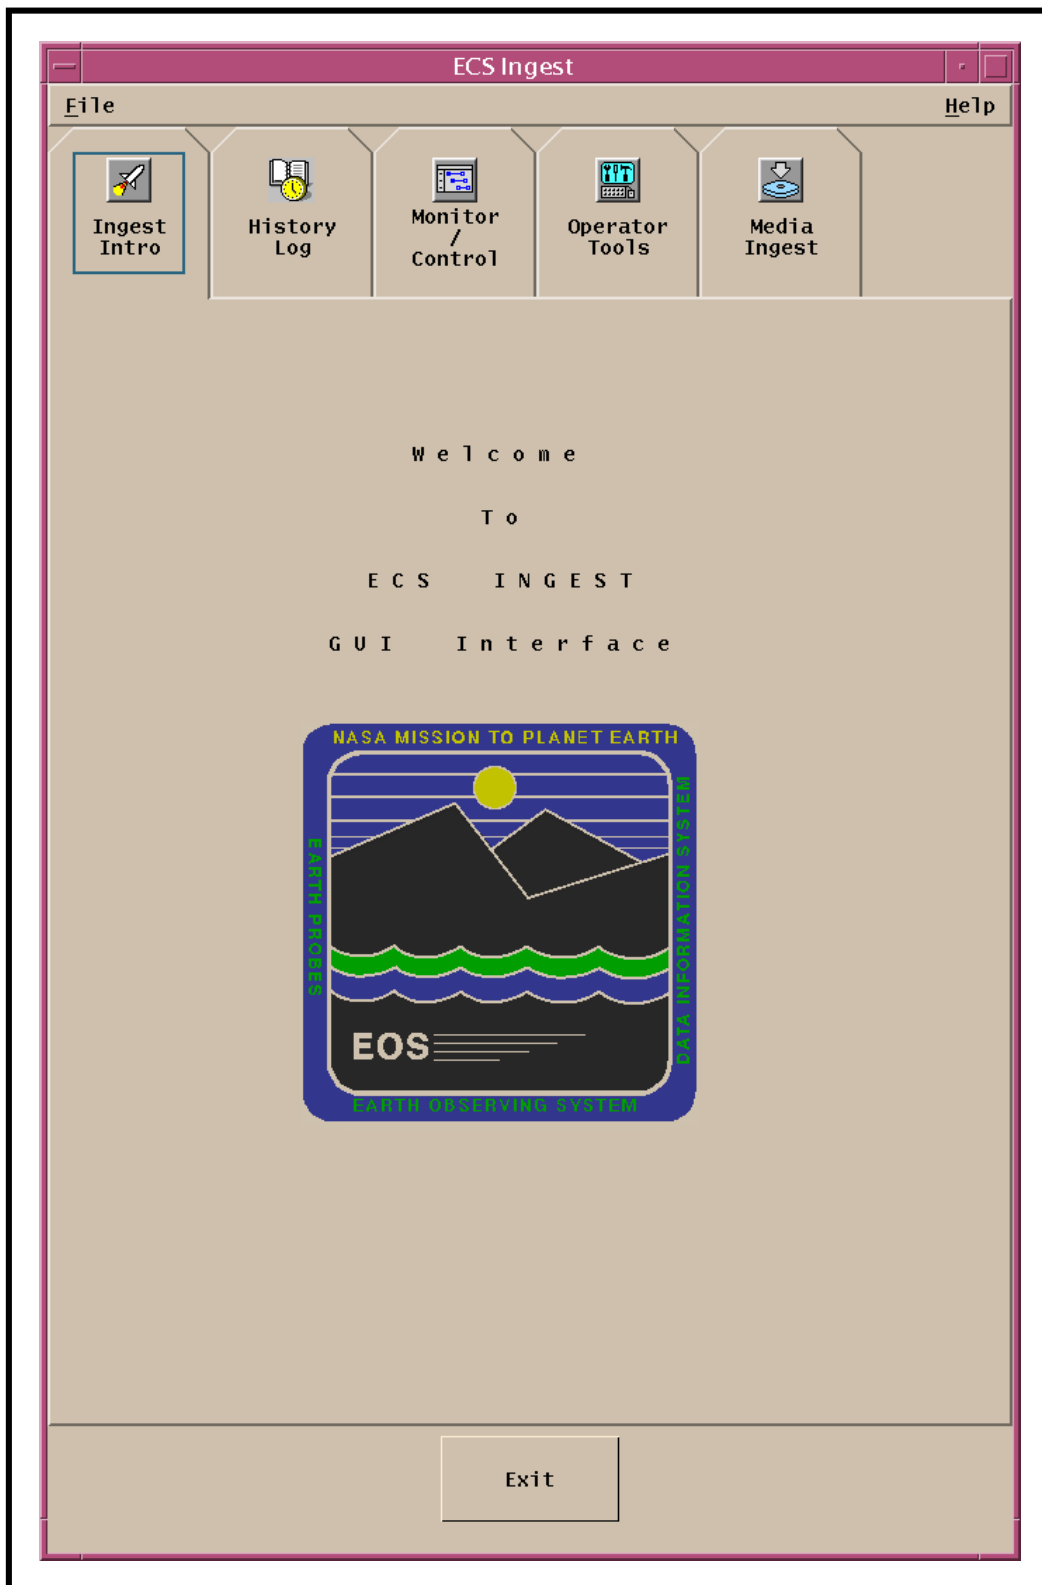

Figure 7. ECS Ingest GUI Intro Screen
The **ECS Ingest** tool, illustrated in Figure 7, has five major functional areas accessible through tab selection:
- The **ECS Ingest GUI Ingest Intro** screen (Figure 7) is displayed.